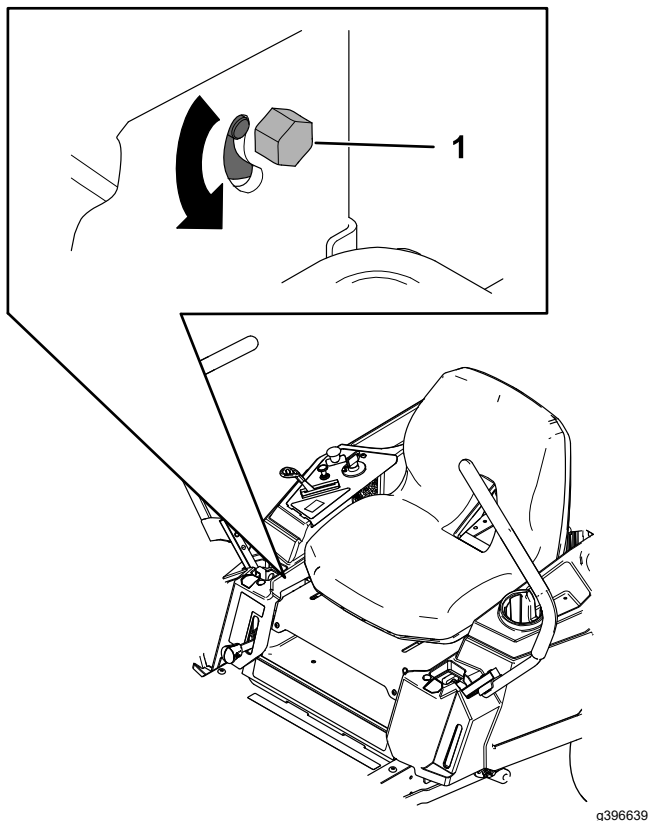

Figure 54
3. Locate the tracking-adjustment bolt near the motion-control lever on the particular side that needs adjusting (Figure 54).